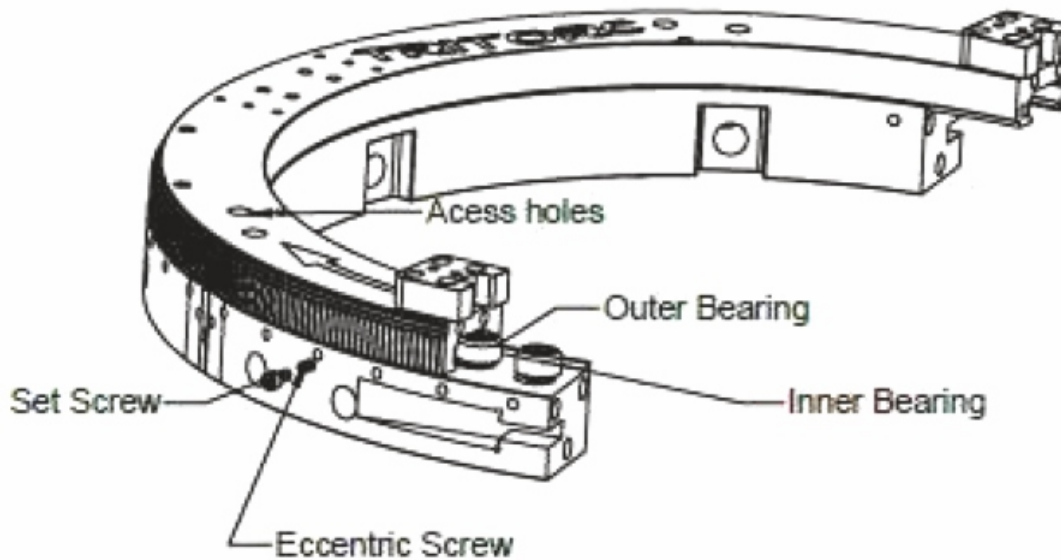

Fig 12. Bearing Adjustment
2. Remove the gear shield from the machine. Remove the outer locking setscrews and loosen the eccentric setscrews (see Figure 12, one half shown). Note that some of the eccentrics have locking and eccentric setscrews that are accessed from the ID instead of the OD.